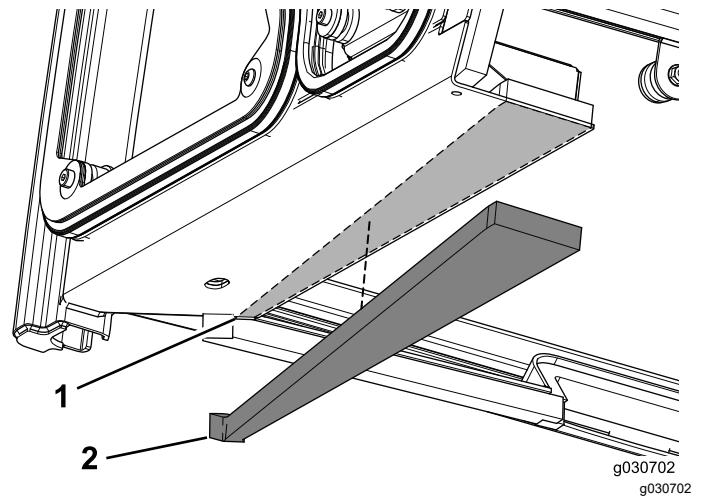

Figure 14
1. Apply the left foam seal approximately 3 mm (1/8 inch) from the edge on the front, left section of the cab unit (Figure 14).